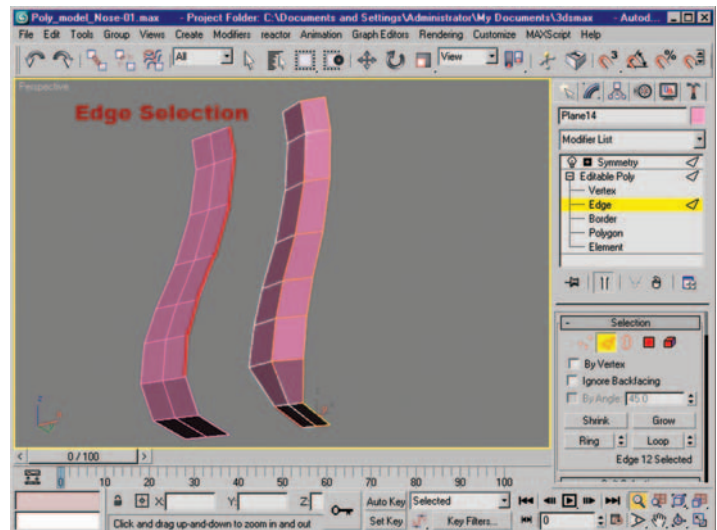

Figure 3.12 Edge adjustments shown with Symmetry modifier applied and Show End Result toggled on.
- From the top of the right edge of the outer loop select six edges, working downward as you go (Figure 3.12). Once they are selected, move them back slightly to create an angle toward the middle of your mesh. We are also going to select the single edge that makes up the bottom area of the nose—the area where the nose ties in to the upper lip. With Symmetry still active, move this edge toward the center line of your mesh, thinning out the area to a more realistic proportion. Figure 3.12 shows the mesh after making the edge adjustments.